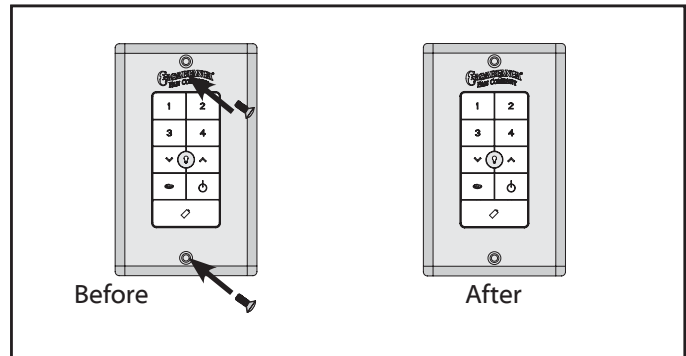

Figure 20
6. Install the cover plate using a Phillips Head screwdriver to secure the two cover plate screws. Figure 20.